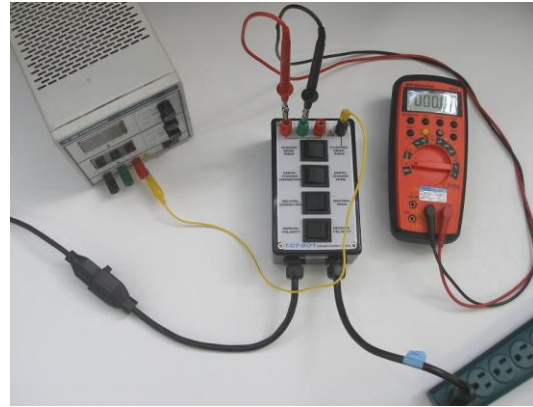

Figure 8 Nonisolated Lead Leakage Test
11. See Figure 8 and Table 8 for a Test Setup synopsis. This section is based on NFPA 99 Fig. 8.4.1.3.6.1, see below.